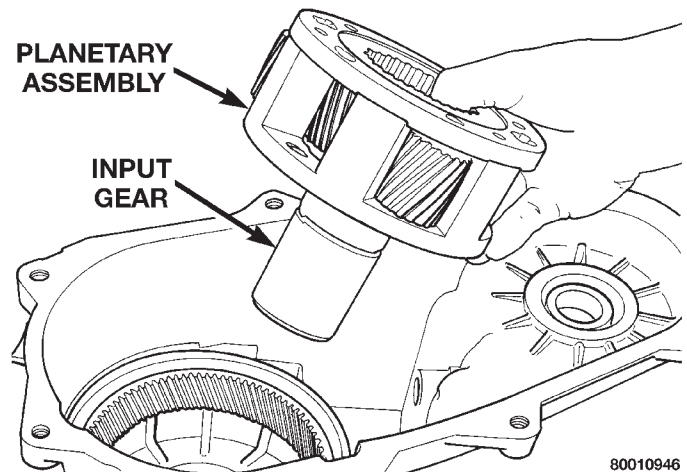

Fig. 32 Input Gear And Planetary Carrier Removal
(5) Place front case in horizontal position. Then remove input gear and planetary carrier as assembly (Fig. 32). Tap gear out of bearing with plastic mallet if necessary.